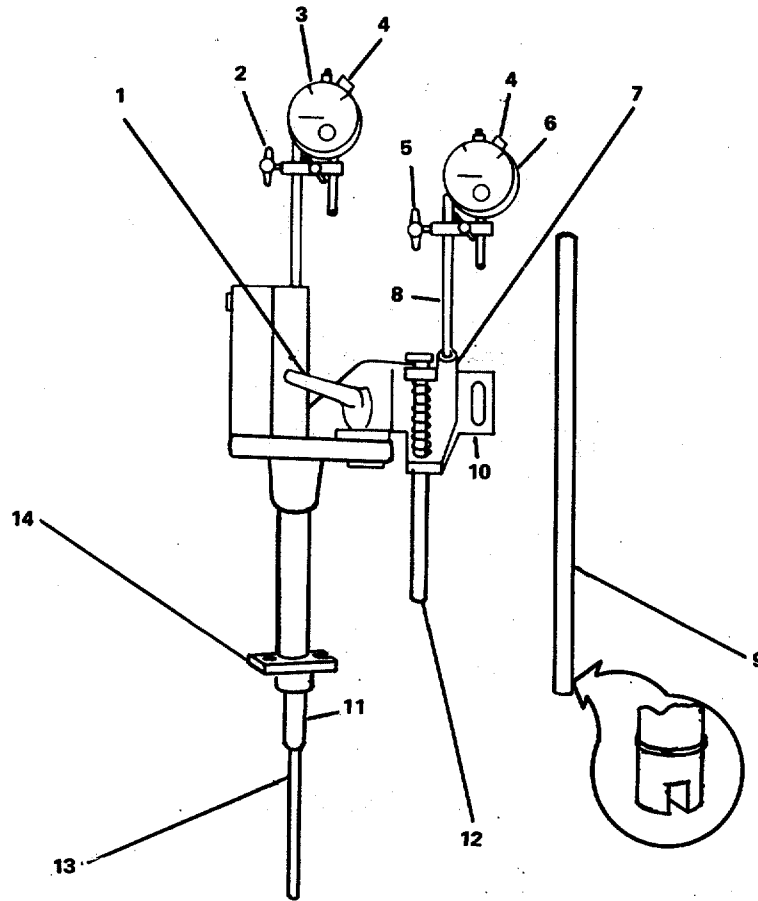

FIGURE 3-37. Injection Timing Tool.
- (c) Install the support bracket (7, FIGURE 3-37) for the push rod adapter (8) into the slot (10) nearest the clamp handle (1).
- (p) Loosen the setscrew (4, FIGURE 3-37) for the gauge dial and turn the dial so that the indicator is at zero. Secure the setscrew.
- (r) Loosen the thumbscrew (5, FIGURE 3-37) for the push rod travel gauge.
- (u) Secure the thumbscrew (5) to hold the gauge in position.
- (v) Loosen the setscrew (4) for the gauge dial, turn the dial so that the indicator is zero and secure the setscrew.